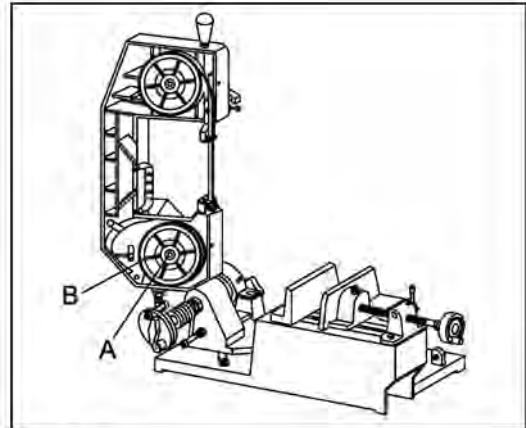

Fig. 9
1. Loosen the screw (A) in Fig.9 with a 8 mm Hex wrench.
2. Remove the wheel (B), then lubricate the gears with Anti-high heat grease.
3. Replaces this wheel with care, then tighten the screw (A) properly.